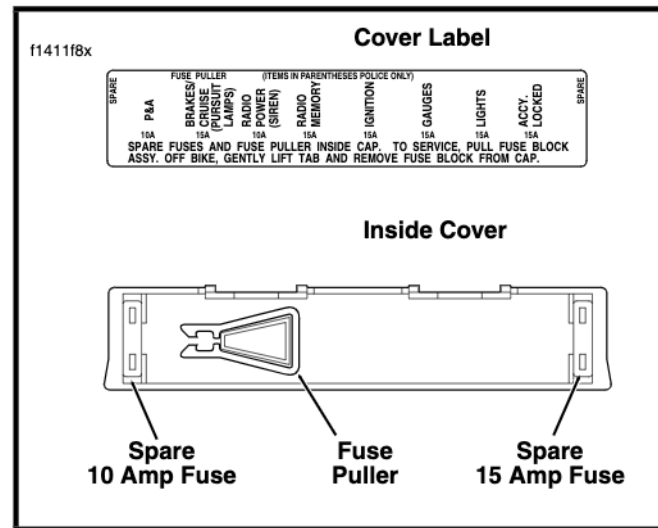

Figure 51. Fuse Block Cover
- Using the puller tool in the fuse block cover, remove the fuse and inspect the element. See Figure 51. Replace the fuse if the element is burned or broken. Automotive type ATO fuses are used.